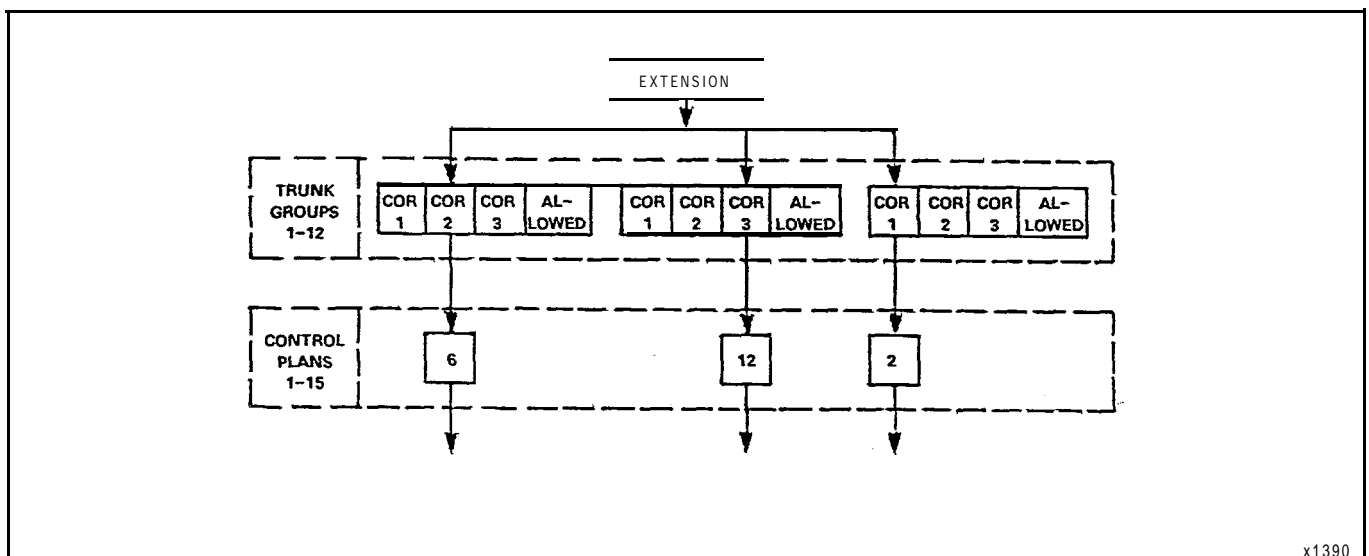

Figure 3-1 Trunk Group Control Plans
3.02 Each Trunk Group may be assigned three different Control Plans, each one linked to one of the Trunk Group's CORs. When an extension accesses a Trunk Group, the COR of the extension is matched to the Trunk Group COR and the assigned Control Plan is accessed. This allows different extensions to access different Control Plans when placing calls through the same Trunk Group (Figure 3-1). It should be noted that a completely allowed path exists in each Trunk Group. This occurs for access by fully toll-allowed extensions or if a Trunk Group has no Control Plan assigned.